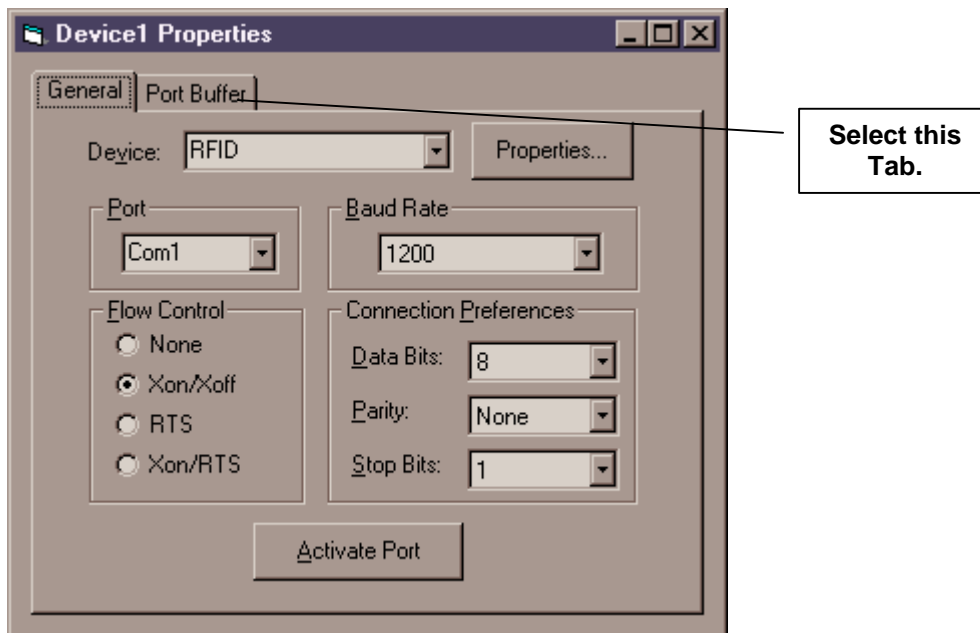

Figure 19
- To verify that you are receiving data, from the AgInfoPorts Interface, click on COM1, and when the Device1 properties dialogue box opens, click the “port buffer” tab. [See figure 19]